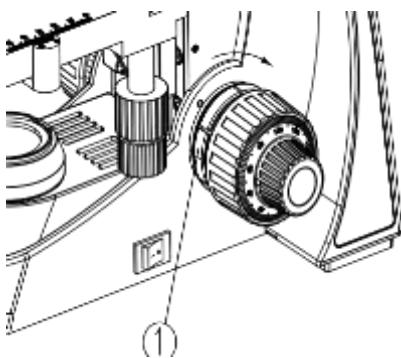

Fig.10
If the handle is very heavy when focusing or the specimen leaves the focus plane after focusing, or the stage declines itself, rotate the tension adjustment knob ① to resolve the problem (See Fig. 10).